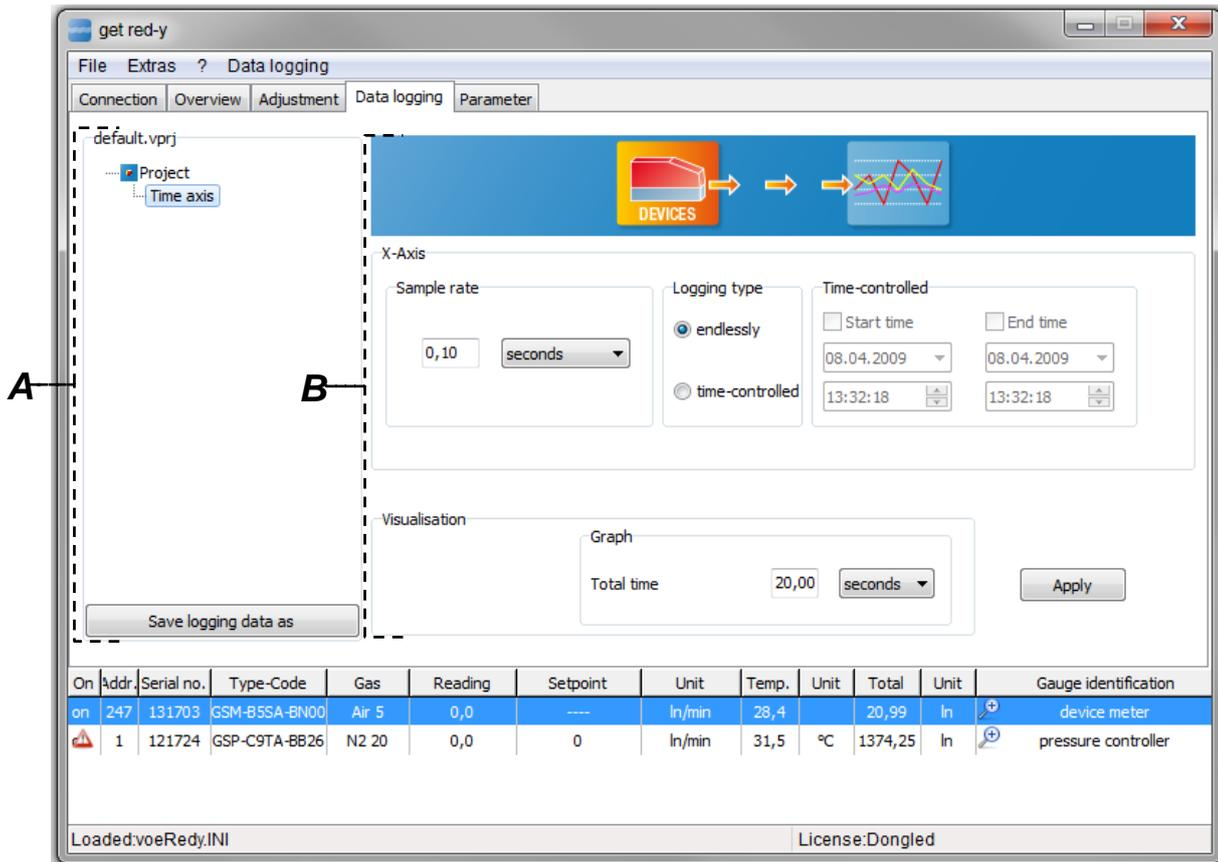

Figure 37: Representation of the Data Logger tab
**A. Projection tree of the Data Loggers:** The Projection tree is the central administrative center for the Data Logger. You can set new channels (Instruments or controllers), signals and the time behavior. With most nodes you can use the right mouse button to open a dialog box in order to execute different functions (see Figure 37). Use the [Save Data as] button to save the settings of the Projection tree.